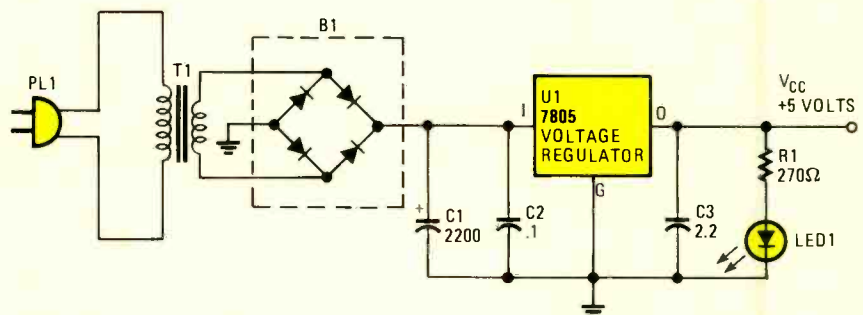

Fig. 2. You will need to build this power supply before proceeding with the experiment.
**Procedure.** If you've just started the series, you must build the power supply specified for a previous experiment before you can proceed with this one. It is shown in Fig. 2.